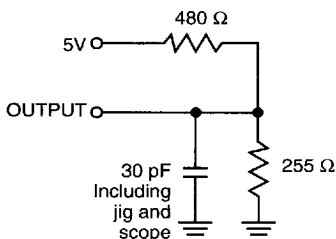

Figure 1a.
1. Test conditions assume signal transition times of 5 ns or less, timing reference levels of 1.5V, input pulse levels of 0 to 3.0V and output loading specified in Figure 1a.
| Output Load                                  | See Figures 1a and 1b |
1. Test conditions assume signal transition times of 3 ns or less, timing reference levels of 1.5V, input pulse levels of 0 to 3.0V and output loading specified in Figure 1a.